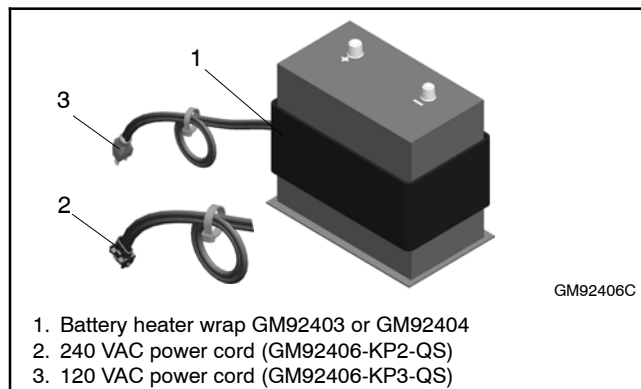
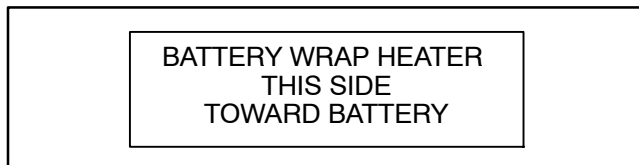

Figure 1 Battery Heater
Figure 2 Label
The battery heater kit contains a heating pad to help warm the battery in cold climates. See Figure 1. The battery heater is equipped with a thermostat that turns the heater on at 18°C (65°F) and turns off at 27°C (80°F). Battery heaters are recommended for regions where the temperature regularly falls below 0°C (32°F).
6. Find the label on the battery heater. See Figure 2. Wrap battery heater GM92403 (120 VAC kits) or GM92404 (240 VAC kits) around the battery with the labeled side contacting the battery. See Figure 1.